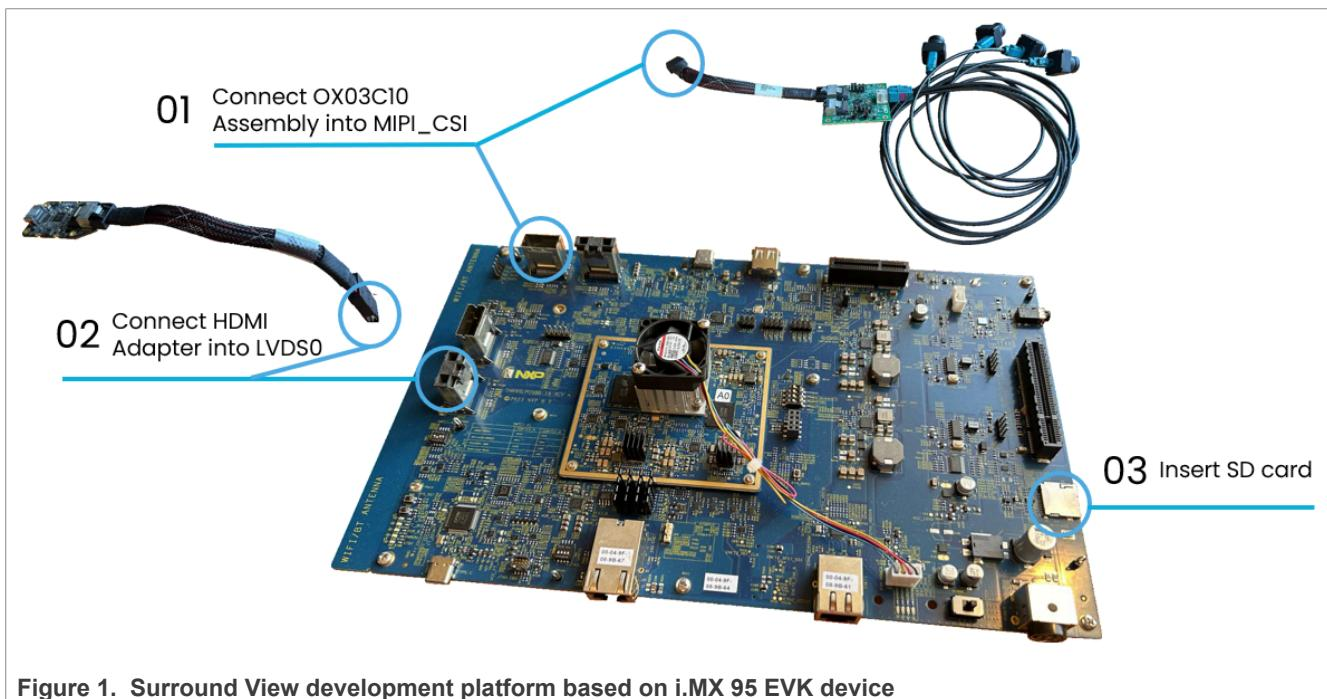

Figure 1. Surround View development platform based on i.MX 95 EVK device
The Surround View development platform consists of the parts listed in Table 1 (see also Figure 1). It is assumed that you can build the demo kit yourself using all released hardware and software sources.
- Connect all boards as shown in Figure 1. Connect the deserializer to the MIPI-CSI connector and the display converter to the LVDS0-CH0 connector on the CPU board. Interconnect these boards using miniSAS cables.